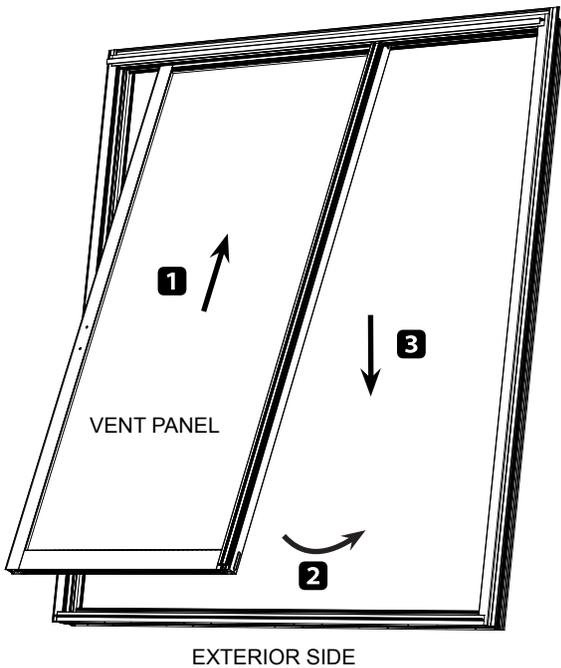

FIG. 15
2. With the rollers in their retracted position, lift and tilt the vent panel and insert it into the interior side of the head. (FIG. 15)